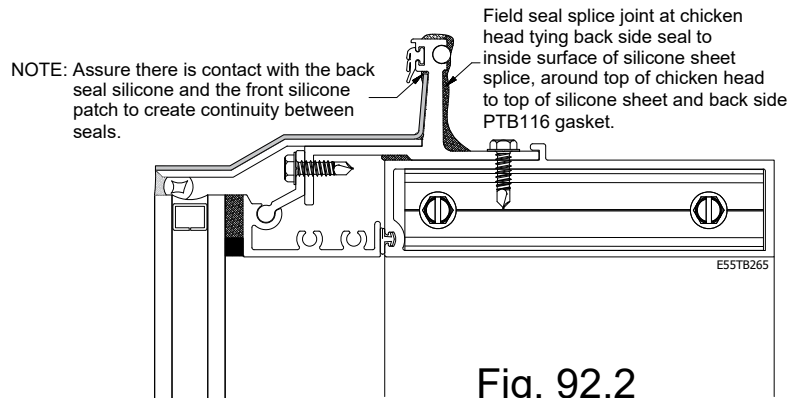

Fig. 92.2
- Step 5: Apply silicone seal to back side of chicken head at splice around creating contact between back side of silicone sheet and around top of chicken head creating contact to back side of sweep gasket. See Fig. 92.2